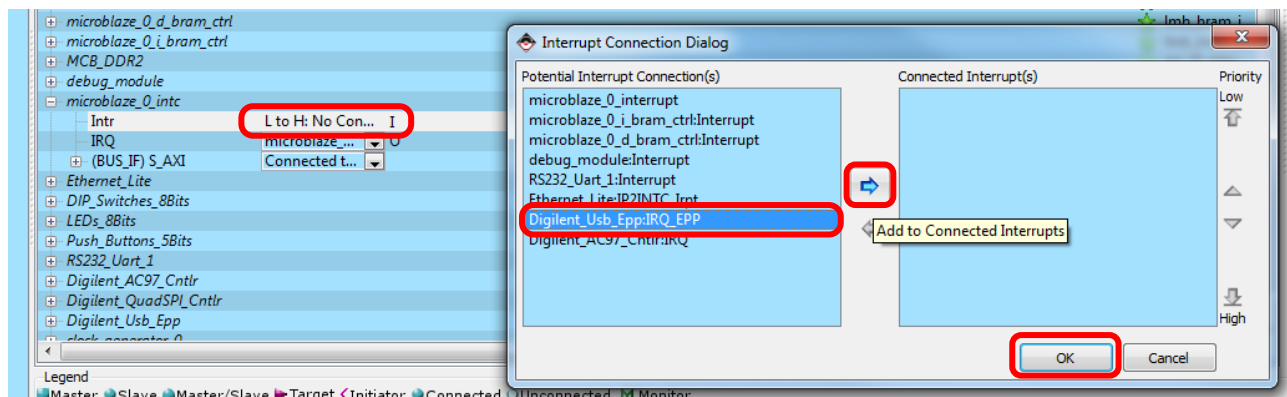

Figure 4. Connecting interrupt port to the interrupt controller
- b. On the “Ports” tab, in XPS, expand the *microblaze_0_intc* instance and click on the “Net” of “Intr” port. An “Interrupt Connection Dialog” appears. Select the interrupt port: **Digilent_Usb_Epp:IRQ_EPP**, shown in Figure 4 below, click on the “->” arrow to add the connection then press OK.